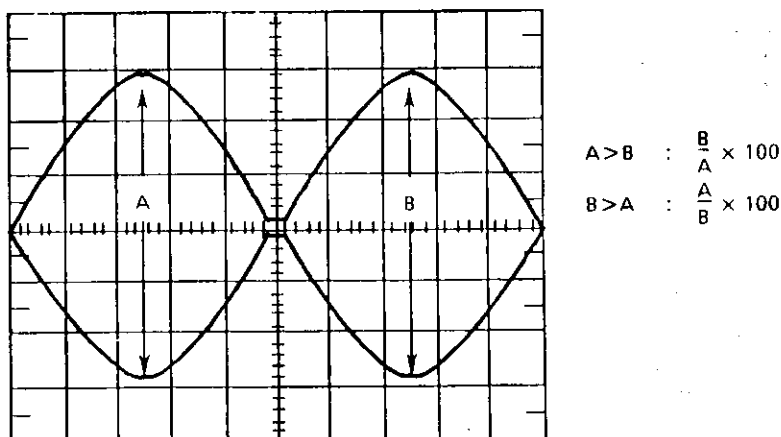

Fig. 5.2 Radial Alignment Waveforms (CATS EYE)
(4) Check the output waveforms for sides 0 and 1. They should appear as in Fig. 5.2.
(5) The two waveforms should appear in the amplitude ratio in the R/A \pm 42% or more.
(6) If the specified ratio is not satisfied, loosen the two mounting screws for the stepper motor.
(7) Move the stepper motor along the base by hand until the two waveforms assume approximately the same amplitude, and retighten the mounting screws. (See Fig. 5.2).
(8) Step the head outward (track 0) and inward (track 40 or 79), and confirm that the adjustment has been completed.
(9) After the initial adjustment, be sure to confirm track 00 sensor adjustment 5.8 and carriage limiter 5.9.